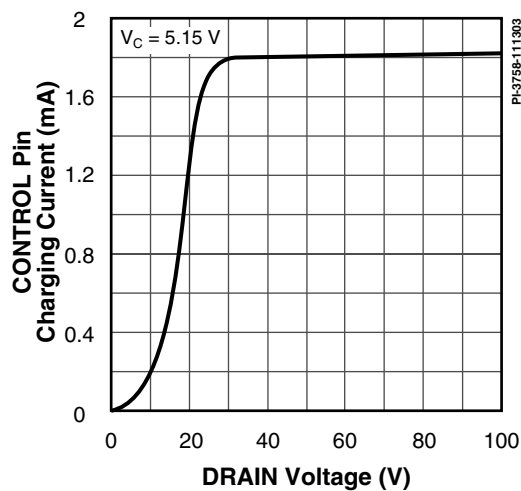

Figure 16.  $I_c$  vs. DRAIN Voltage.
- E. It is possible to start up and operate *LinkSwitch* at DRAIN voltages well below 36 V. However, the CONTROL pin charging current is reduced, which affects start-up time, auto-restart frequency, and auto-restart duty cycle. Refer to the characteristic graph on CONTROL pin charge current ( $I_C$ ) vs. DRAIN voltage (Figure 16) for low voltage operation characteristics.